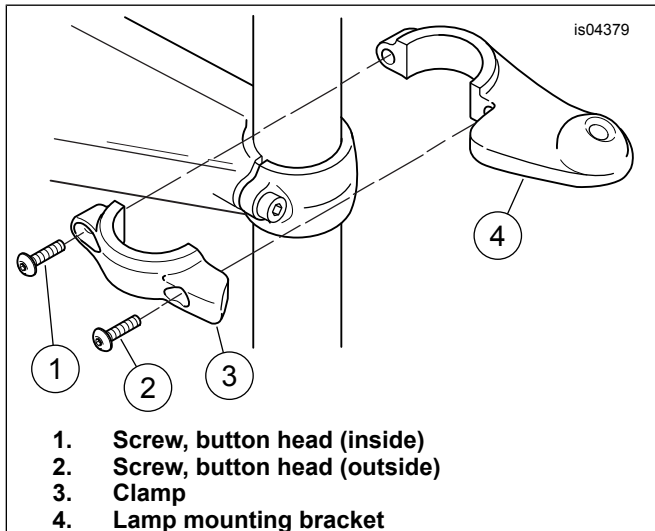

Figure 1. Install Mounting Bracket on Fork Tube (Right Side Shown)
5. See Figure 1. Position the right side mounting bracket (4) and clamp (3) on the right side fork tube as shown. Loosely fasten with two button head screws (2), then the inboard screw (1) to 8–9 N·m (70–80 in-lbs).